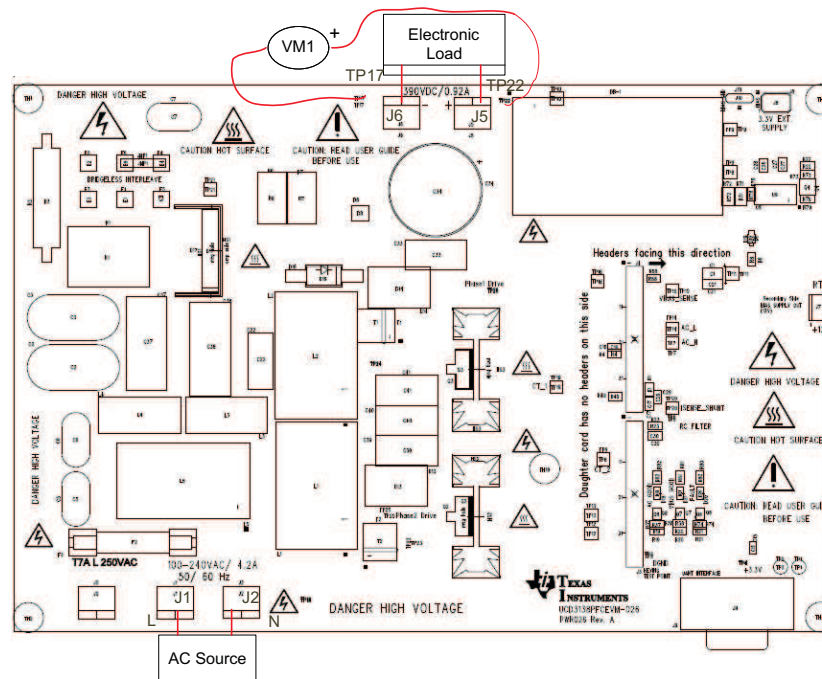

Figure 3. UCD3138PFCEVM-026 Recommended Test Setup
1. Refer to Figure 3 for basic setup to measure power conversion efficiency. The required equipment to do this measurement is listed in Section 5.1.